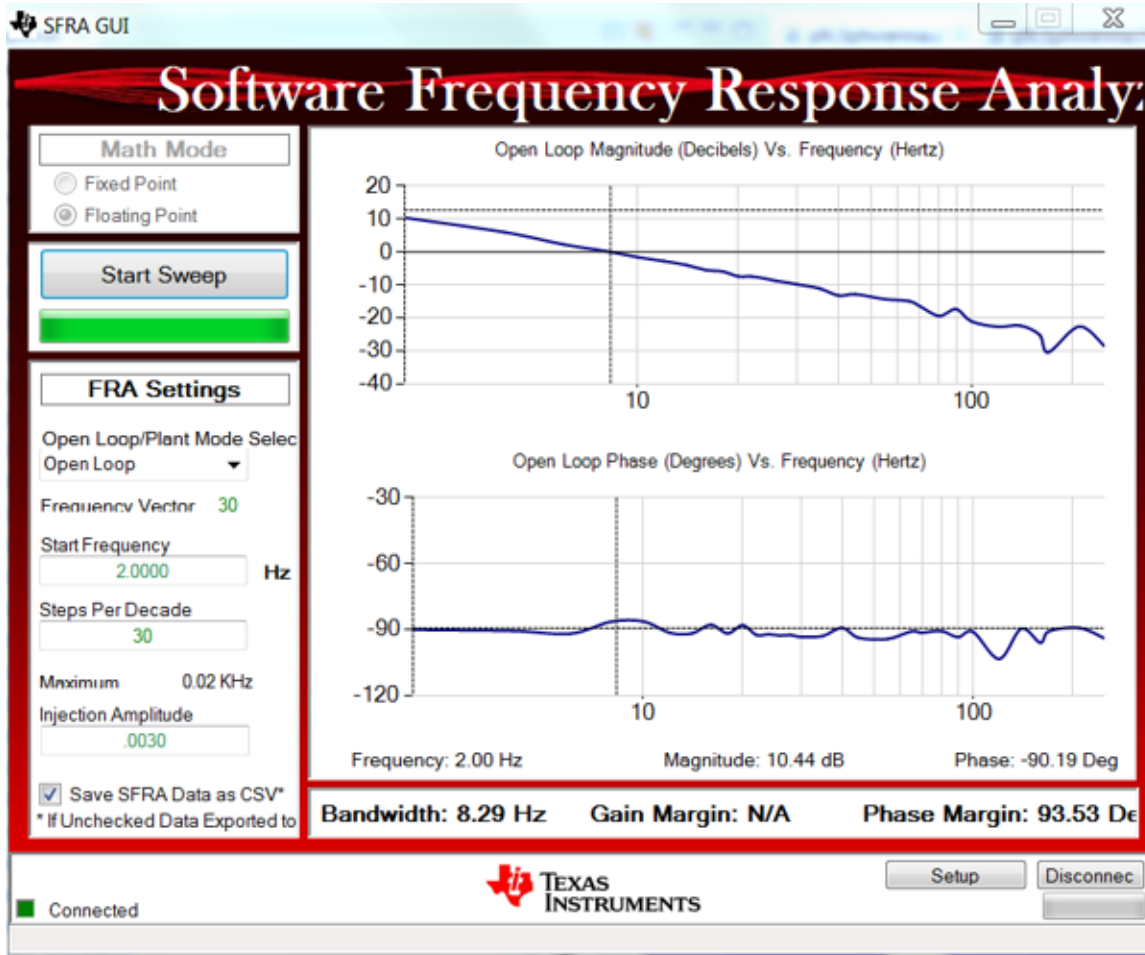

Figure 40. SFRA Run on Closed Voltage Loop
8. The SFRA GUI will connect to the device. A SFRA sweep can now be started by clicking *Start Sweep*. The complete SFRA sweep will take a few minutes to finish. Activity can be monitored by seeing the progress bar on the SFRA GUI and checking the flashing of blue LED on the back on the control card that indicates UART activity. Once complete, a graph with the open loop plot will appear, as seen in Figure 40. This action verifies that the designed compensator is indeed stable.